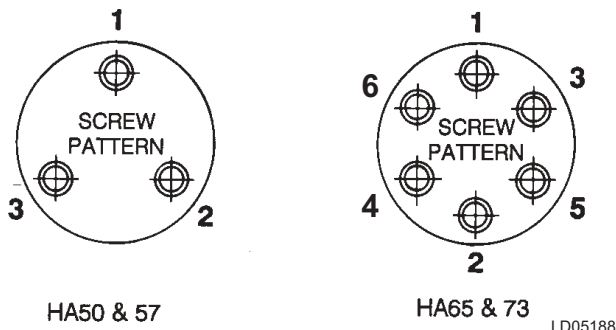

FIG. 54 – IMPELLER MOUNTING SCREWS TIGHTENING SEQUENCE
4. Install the impeller clamping collar and the (3) or (6) cap screws onto the high-speed shaft.
5. Torque cap screws to 120 ft.lbs in (2) equal steps. Refer to FIG. 54 for the proper sequence of tightening screws.